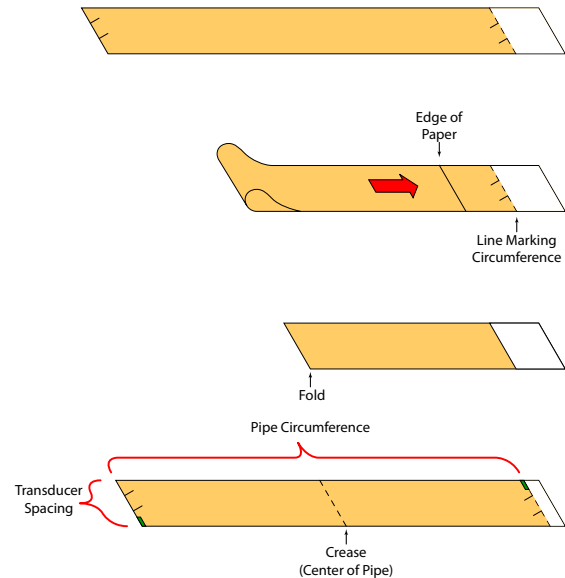

Figure 29: Bisecting the pipe circumference
2. Mark the intersection of the two ends of the paper to indicate the circumference. Remove the template and spread it out on a flat surface. Fold the template in half, bisecting the circumference. See *Figure 29*.